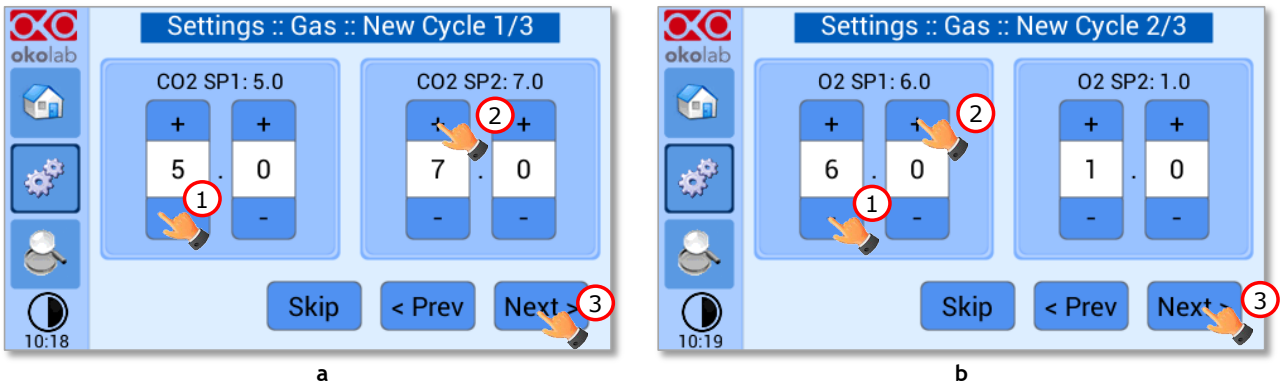

Figure 36. CO₂ and O₂ Concentrations cycles settings (a - b).
1. Choose the two CO₂ and O₂ concentrations between which you want to switch (*SP1*: Setpoint 1 and *SP2*: Setpoint 2, as shown in Figure 36).